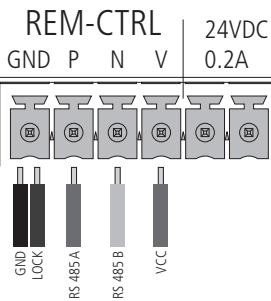

FIGURE 2:
ground (1), 24 V dc (2), RS 485A (3), RS 485B (4), LOCK (5) to ground (see the figure 2).